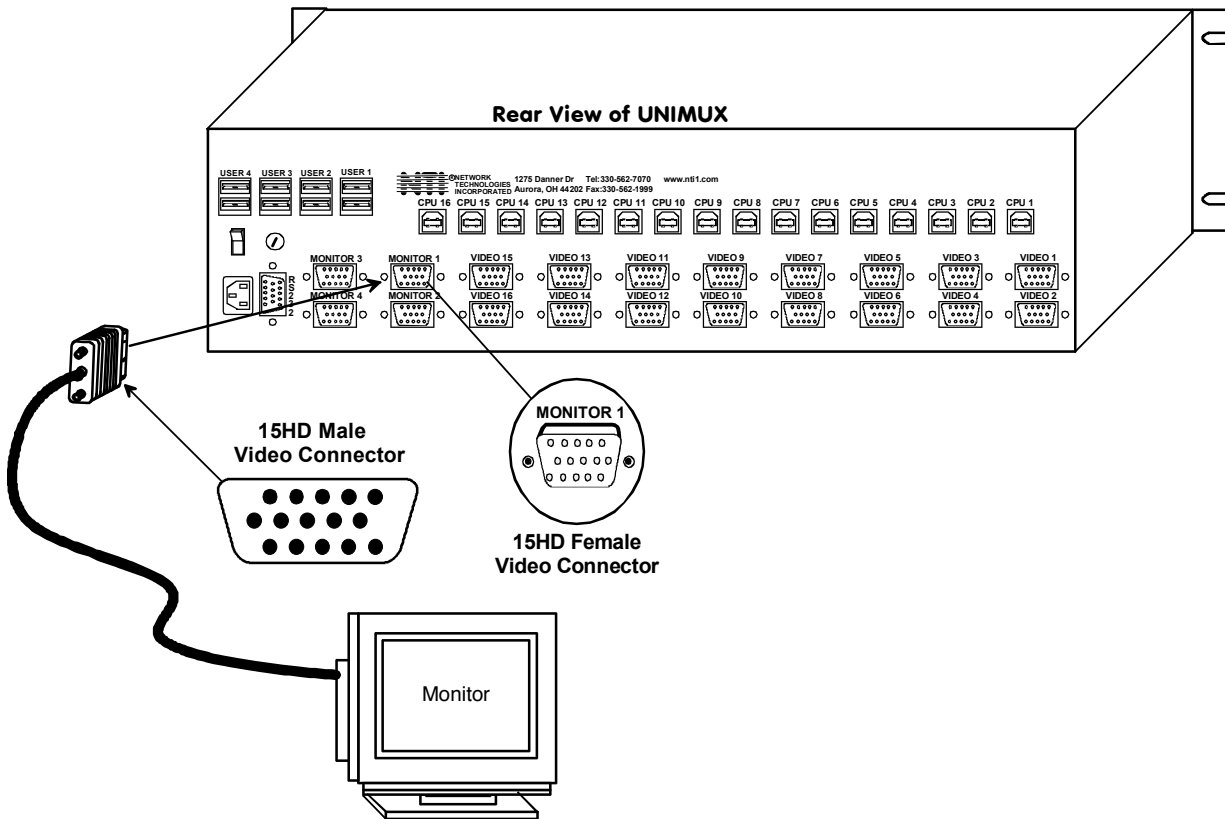

Figure 2- Install user monitor(s)
1. Connect the 15HD male cable end from each user monitor to the female 15HD ports labeled "MONITOR x " on the rear of the UNIMUX switch. See Figure 2.